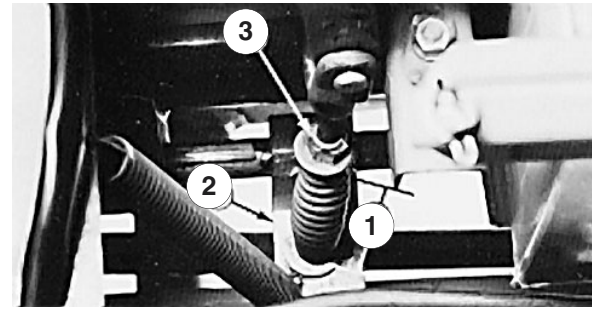

Figure 41
3. Measure the length of the power take-off spring between the flat washers (Fig. 41). There should be a spring length of 3- $\frac{3}{16}$  in. (81 mm).
4. To adjust, hold the head of the adjusting screw with a wrench (under the power take-off actuating arm) and turn the locknut (Fig. 41).